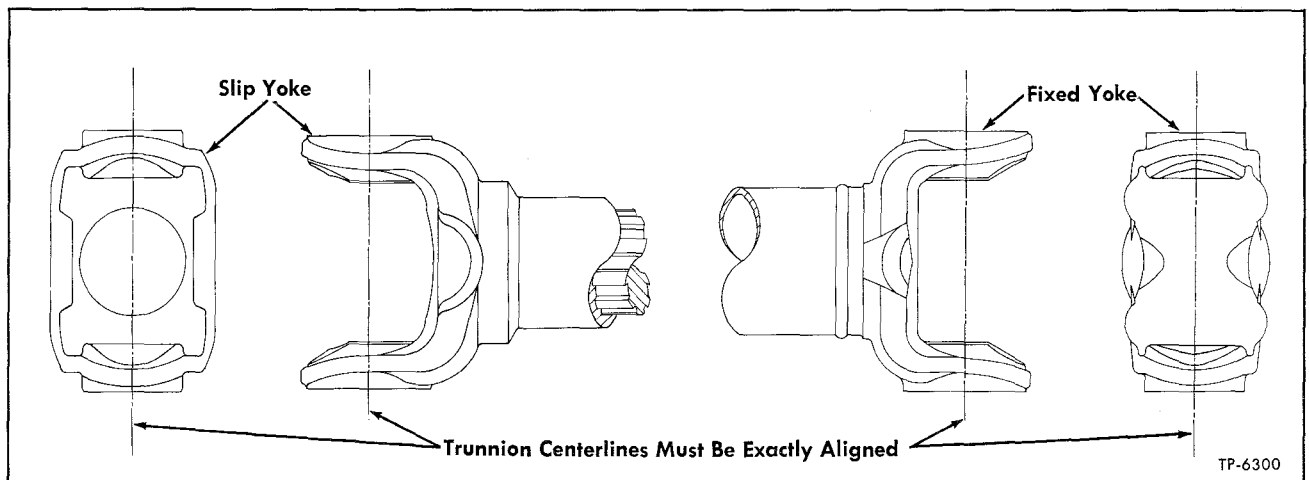

Figure 3—Yoke Alignment
1. Align arrows on slip yoke and end yoke. Make sure yokes are exactly aligned, as shown in figure 3.
Trunnions of universal joints are drilled and provided with lubrication fittings, through which lubricant travels to all four oil reservoirs (fig. 3) and then, through a small hole in side of each reservoir, direct to needle bearings. Pressure relief valve, in the central chamber, prevents damage to gaskets when extremely high pressure is used in forcing in lubricant. This valve also serves as an indicator to show when universal joints are completely filled with lubricant.